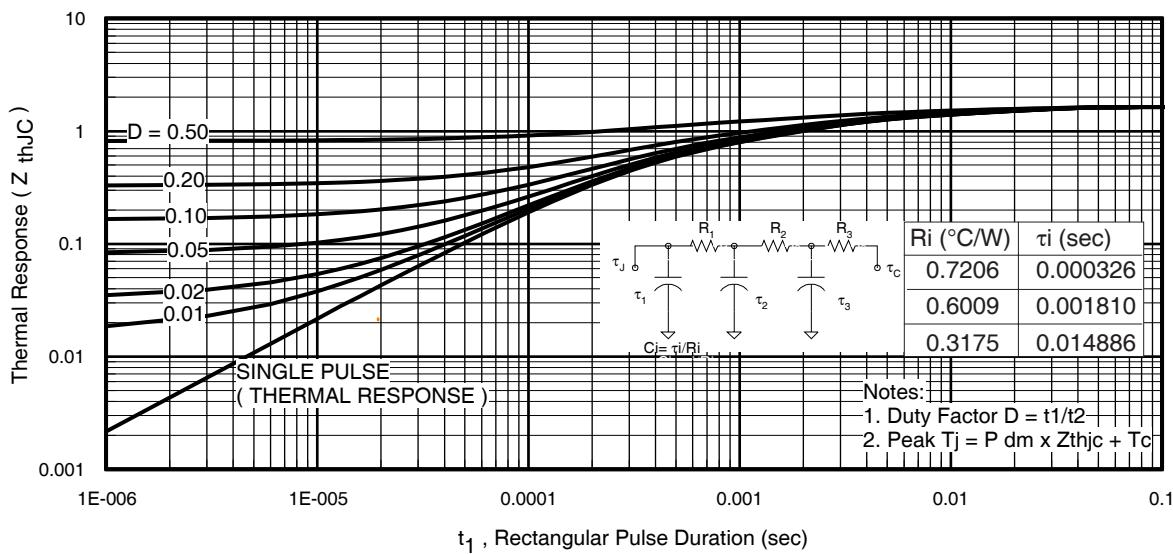
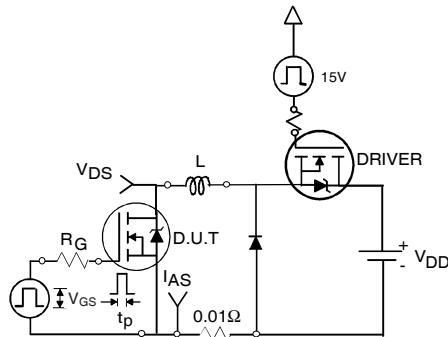

Fig 11. Maximum Effective Transient Thermal Impedance, Junction-to-Case
Fig 12a. Unclamped Inductive Test Circuit
3. Equation below based on circuit and waveforms shown in Figures 12a, 12b.
- $Z_{thJC}(D, t_{av})$ = Transient thermal resistance, see figure 11)
- ① Repetitive rating; pulse width limited by max. junction temperature. (See fig. 11).
- ② Limited by T_{Jmax} , starting $T_J = 25^\circ\text{C}$, $L = 0.11\text{mH}$ $R_G = 25\Omega$, $I_{AS} = 37\text{A}$, $V_{GS} = 10\text{V}$. Part not recommended for use above this value.
- ③ Pulse width $\leq 1.0\text{ms}$; duty cycle $\leq 2\%$.
- ④ $C_{oss\ eff.}$ is a fixed capacitance that gives the same charging time as C_{oss} while V_{DS} is rising from 0 to 80% V_{DSS} .
- ⑤ Limited by T_{Jmax} , see Fig.12a, 12b, 15, 16 for typical repetitive avalanche performance.
- ⑥ This value determined from sample failure population. 100% tested to this value in production.
- ⑦ When mounted on 1" square PCB (FR-4 or G-10 Material). For recommended footprint and soldering techniques refer to application note #AN-994
- ⑧ R_θ is measured at T_J approximately 90°C